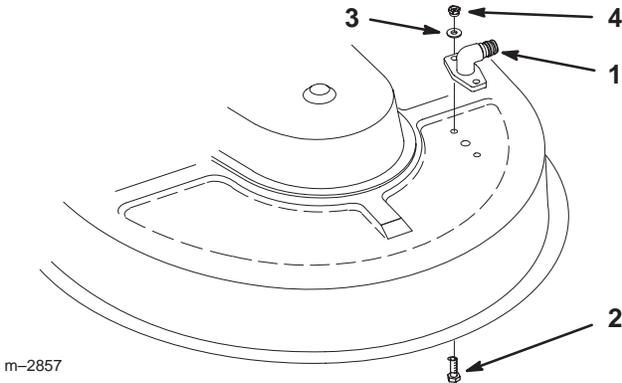

Figure 5
- 9. Place fitting on mower facing outward, and secure with (2) 1/4–7/8” (22 mm) bolts, (2) 1/4” (7 mm) washers and (2) 1/4” nuts (Fig. 5 or 6).